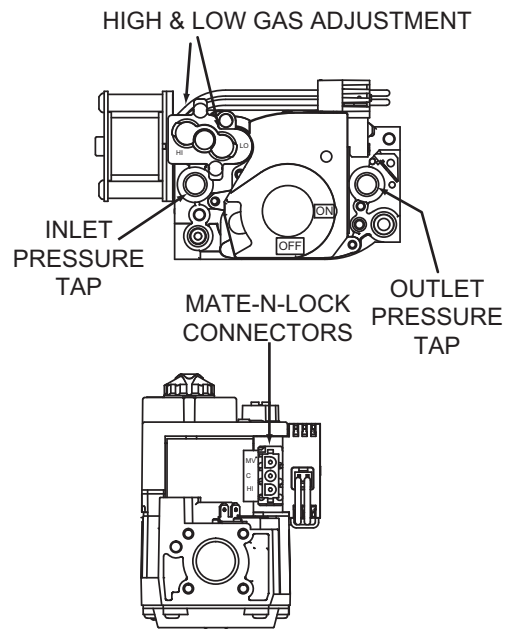

Figure 35: Typical Gas Valve
4. Turn gas valve clockwise to "OFF" position (See Figure 35).
This gas furnace has two heat stages. Therefore, the gas valve has two adjustment screws located under a plastic protective cover. The second stage (100% input) adjustment screw is adjacent to the "HI" marking on the valve and the first stage (60% input) adjustment screw is located adjacent to the "LO" marking on the valve (See Figure 35).